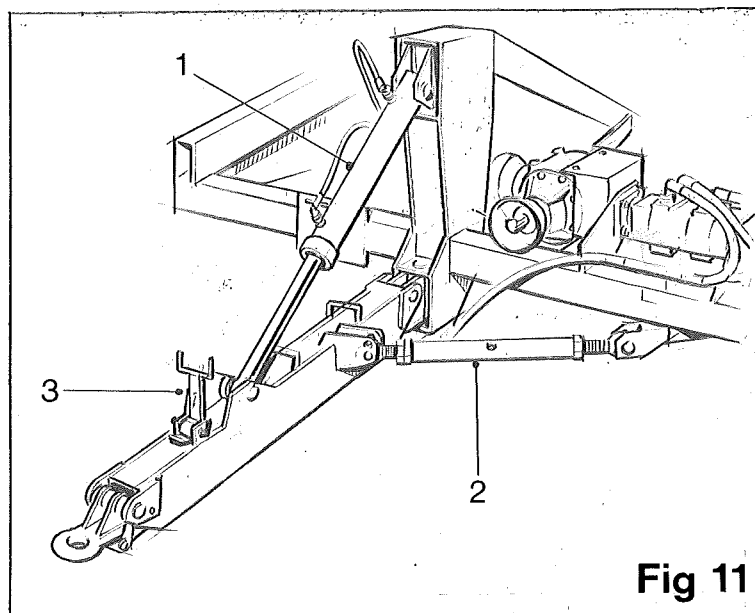

Fig 11
The drawbar is adjustable to pivot in two different directions. Vertical movement is controlled by a double acting hydraulic ram (item 1, fig 11) and is adjustable to give the harvester its correct digging depth and also to lift the harvester out of work. The hydraulic ram (item 1, fig 11) is actuated from the tractor mounted control box (see section on Control Box). Horizontal movement of the drawbar is provided by either an adjustable stay (item 2, fig 11) or a double acting hydraulic ram and provides easy manoeuvrability of the harvester to align it with the crop, also assisting when harvesting on hillsides. To adjust the drawbar fitted with an adjustable stay (item 2, fig 11), simply turn the stay centre section to give the required movement. The drawbar fitted with hydraulic ram is actuated from the tractor mounted control box (see section on Control Box). On later machines, a drive shaft carrier (item 3, fig 11) is fitted to support the PTO drive shaft after uncoupling from the tractor.